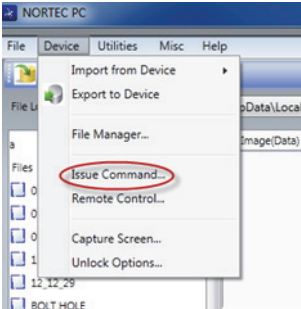

Figure 6-17 The Device menu – Issue Command
- 1. On the **Device** menu, select **Issue Command** (see Figure 6-17 on page 315).